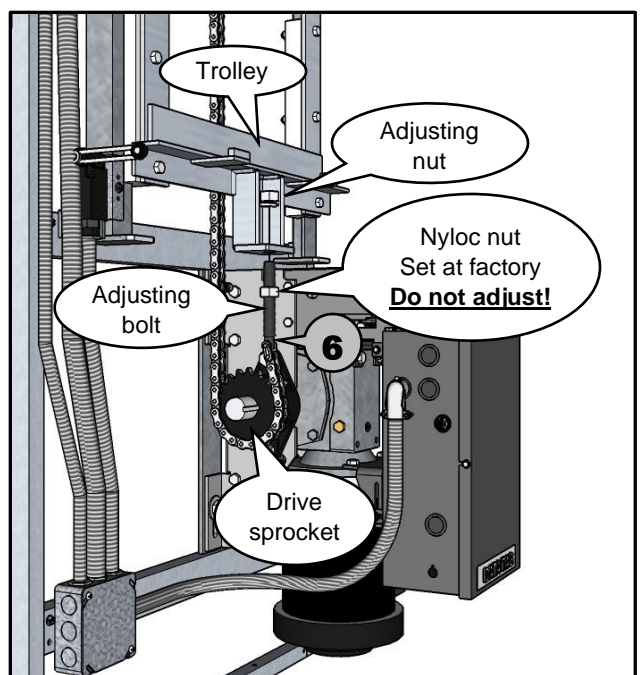

Figure 12
- 6** The other end of the chain should hang down behind the trolley and be placed around the drive sprocket of the motor. Then insert the threaded adjusting bolt on the end of the chain into the hole on the bottom of the trolley where the adjusting nut is tied on and use the adjusting nut to secure the adjusting bolt to the trolley. Use a blade screwdriver or needle nose pliers to hold chain from twisting and tighten adjusting nut until Nyloc nut is tightly seated against trolley. **Do not adjust Nyloc!** (see Figure 12)